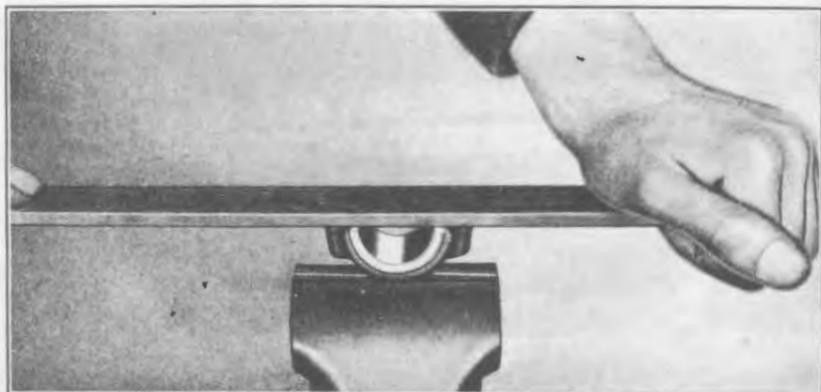

Fig. 232
- 384 Check pin bearings on crankshaft with a micrometer to see that bearings are not out of round (See "A" Fig. 231). Take the measurement across several different points. If the crank pin shows more than .002" out of round, the shaft should be changed. If the shaft is O. K. and the babbitt in the rod and cap have not been damaged, the cap should be filed with a large mill file as shown in Fig. 232, filing about .002" from face of cap. (If the babbitt has been burned out, see Par. 389.) The repair man must exercise considerable care to hold the file squarely on the cap.